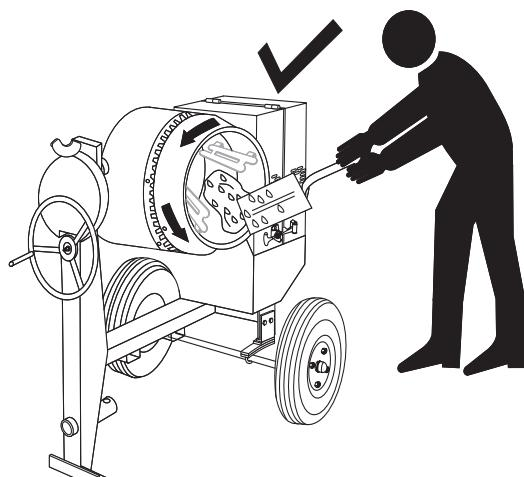

Figure 20. Filling Mixing Drum
2. As the drum rotates, use a shovel (Figure 20) to place the cement mix inside the drum, add water as required. Be careful to only place the ***tip*** of the shovel inside the drum.